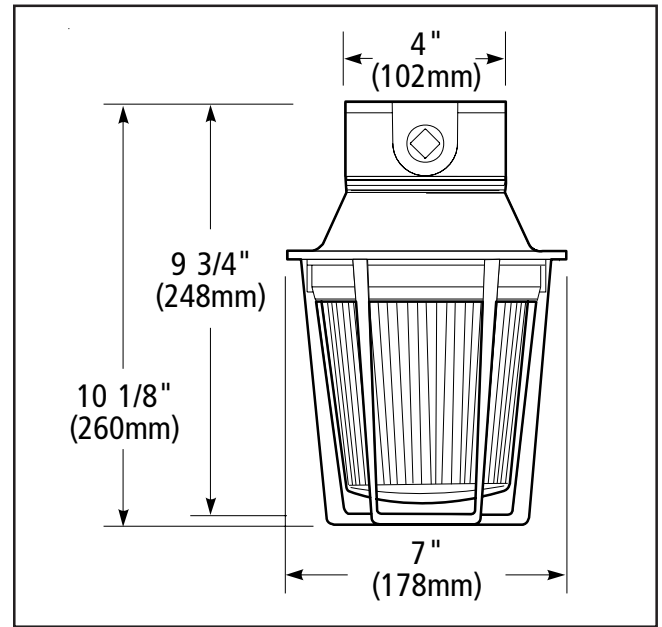

Figure 3. Detail of Ceiling Mounting
- Ceiling Mount Installation (Figures 3 and 4):** Unscrew and remove the clear outer globe. Remove the two screws holding the circuit assembly to the bottom of the fixture. To separate the ceiling junction box from the fixture housing, remove the remaining two screws at the bottom of the fixture.